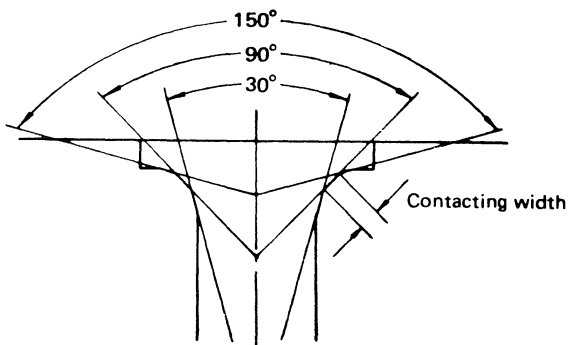

Figure 10
2. Seat cutters of 15°, 45°, and 75° are used to correct the valve seat so that the contacting width becomes equivalent to the standard, see Figure 10. Contacting width of both intake and exhaust valve seats are specified on page 28.